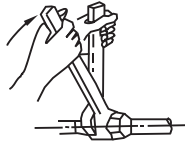

Fig.12-4
- Put the connecting tubing at the proper position, wrench the nuts with hands then fasten it with a wrench. (Refer to Fig.12-4)
- Expel the air with a vacuum pump (Refer to Fig.12-4) (Please refer to its manual for the way of using manifold valve)